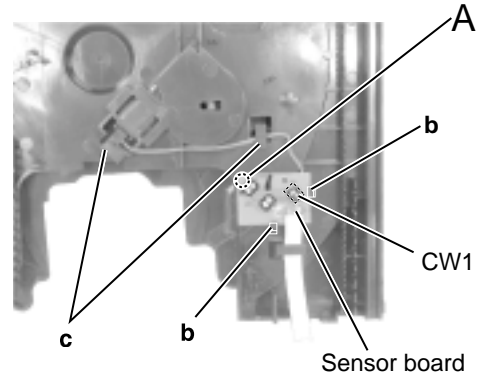

Fig.6
■ **Removing the sensor board / the turn table motor assembly (See Fig.6 to 8)**